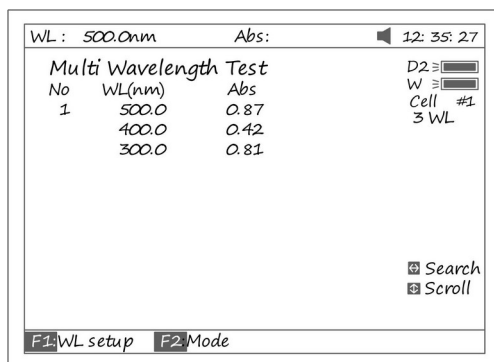

Fig 71
4. Pull the sample cuvette into Light Path, press [START] to test. The test results will be displayed on the screen (Fig 71).